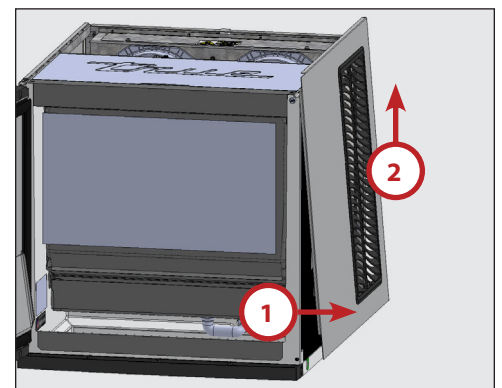

Fig. 6. Pull the panel from the adhering tabs and then lift the panel.
4. Pull the side panel from the bottom fasteners. Then, lift the side panel. See fig. 6.